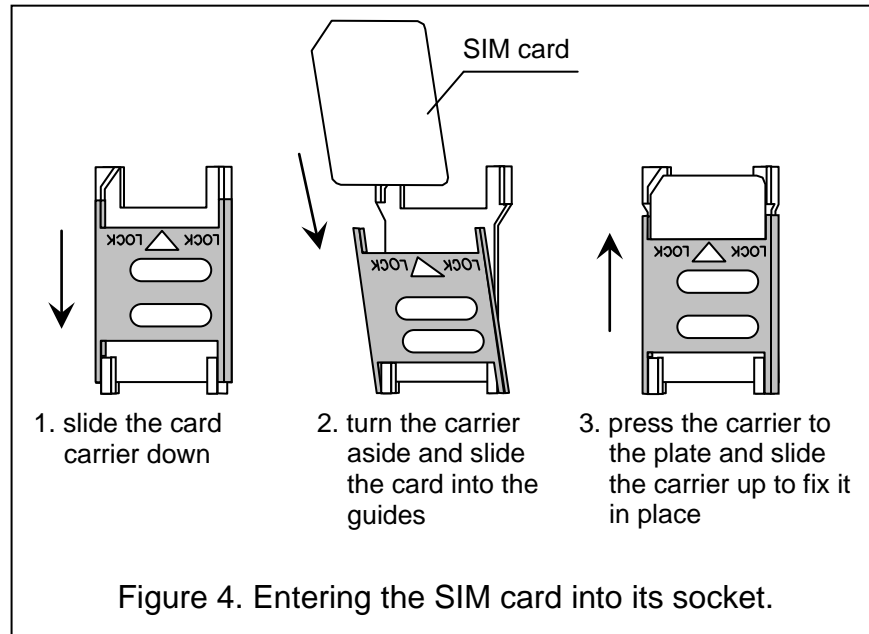

Figure 4. Entering the SIM card into its socket.
6. Insert SIM card into the module (see Fig. 4).